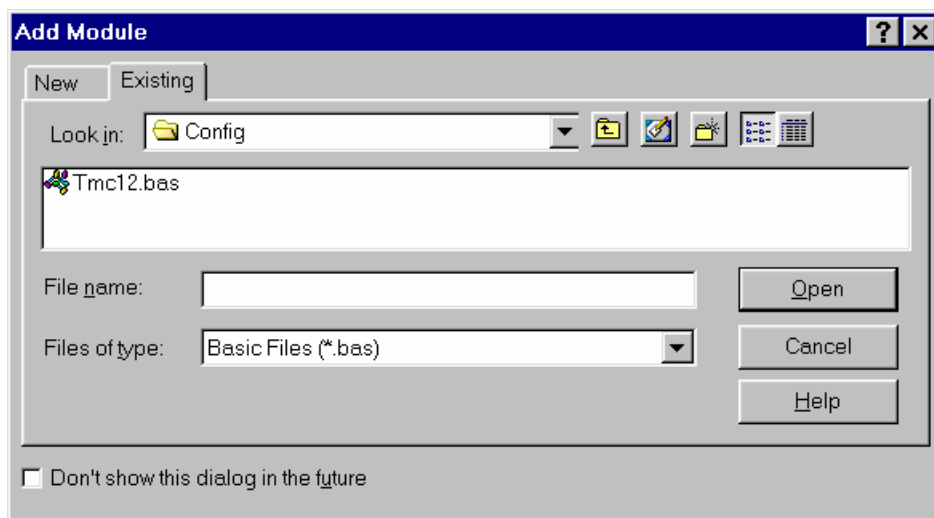

Figure 2-3-2. Select the declaration file to include.
Step 3: Select the page "Existing". Refer to Figure 2-3-2.
For example, the declaration file: "TMC12.BAS". Refer to Figure 2-3-2.
Step 5: Click the button "Open". Refer to Figure 2-3-2.